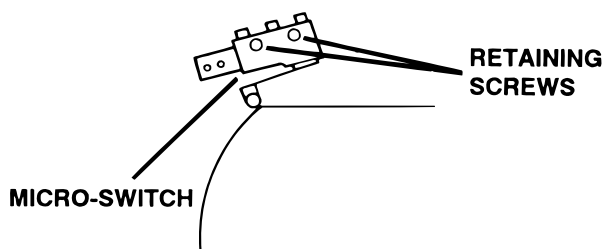

Figure 5-19. Micro-Switch Adjustment
2. For all switches except the Leg Section switches, carefully loosen the switch retaining screws, and adjust the switches as needed. See figure 5-19.